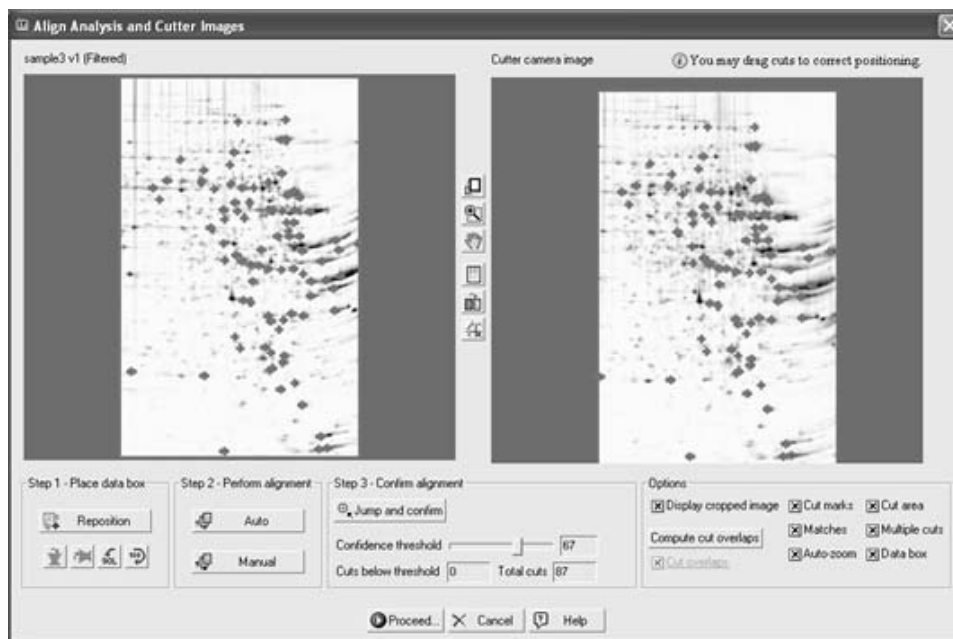

Figure 6-12. Align Analysis and Cutter Images dialog box
14. Align the spots on the cutter image (right side of Figure 6-12) with spots in the analysis set image (left side of Figure 6-12).